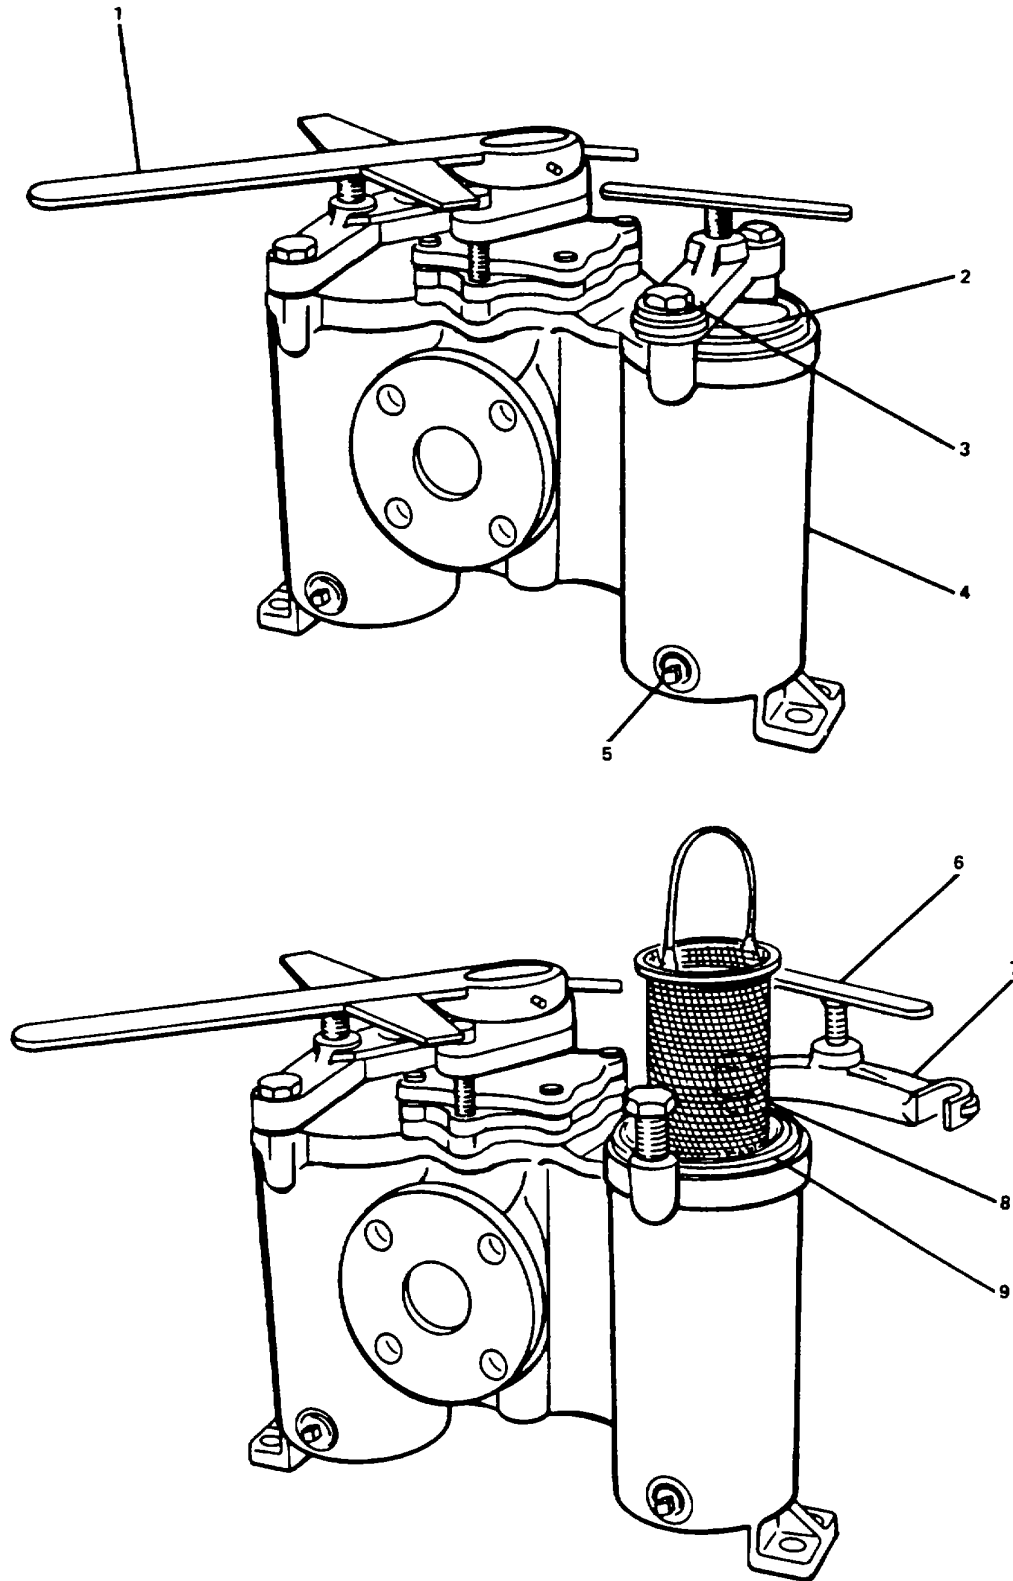

Figure 2-102. Repair Duplex Strainer.
- a. Position handle (1, Figure 2-102) over opposite strainer.
- b. Place utility pail under duplex strainer (4) and remove drain plug (5).
- c. Replace pipe plug (5) after draining strainer.
- d. Loosen yoke clamp retaining bolt (3).
- e. Rotate yoke screw (6) counterclockwise until fully extended and aligned with yoke clamp (7).
- f. Swing yoke clamp (7) 90 degrees.
- g. Remove well cover plate (2) and gasket (9).
- h. Remove strainer element (8).